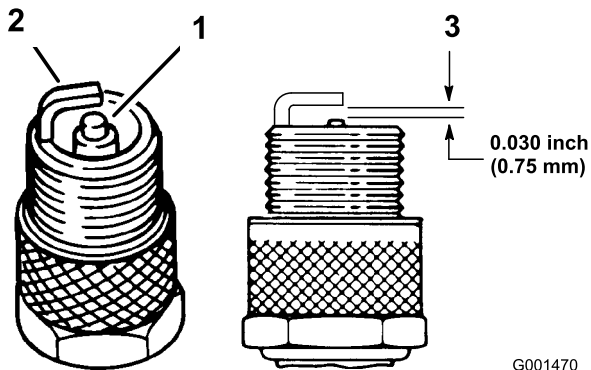

Figure 31
3. Connect the wires to the spark plugs (Figure 31).
1. Look at the center of the spark plugs (Figure 31). If you see light brown or gray on the insulator, the engine is operating properly. A black coating on the insulator usually means that the air cleaner is dirty.
3. Check the gap between the center and side electrodes (Figure 31). Bend the side electrode (Figure 31) if the gap is not correct.